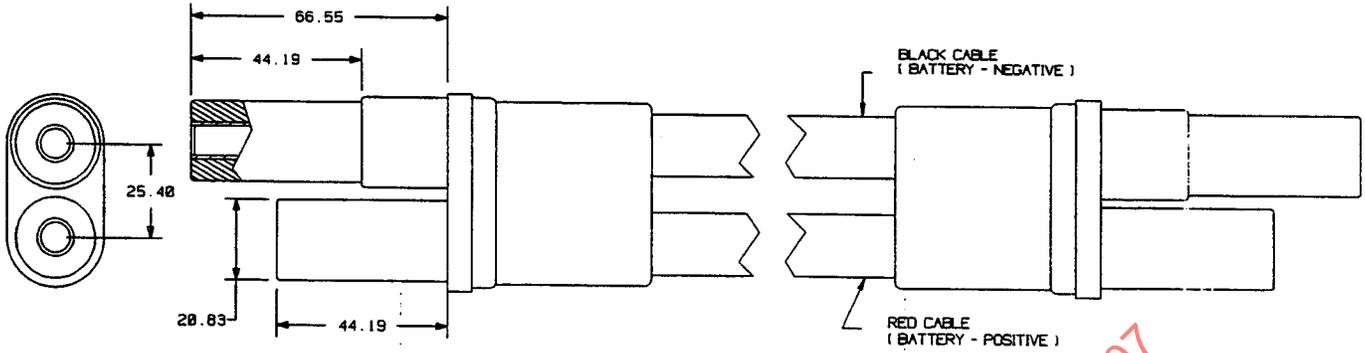

FIGURE 3—PLUG ASSEMBLY (MACHINE TO MACHINE)
3.2 The plug assembly shall contain two socket contacts as shown in Figures 3 and 4.
3.3 Two typical plug assembly configurations are shown in Figures 3 and 4.
- 3.3.1 The configuration shown in Figure 3 is used for auxiliary starting of one machine from another when both are equipped with a receptacle.